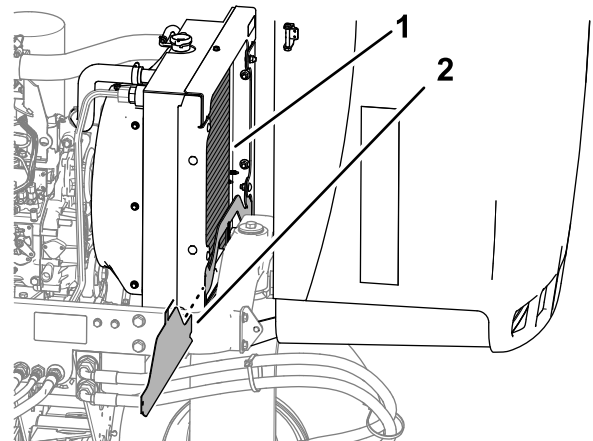

Figure 82
4. Remove the lower radiator shield (Figure 82).
5. Clean both sides of the radiator area thoroughly with water or compressed air (Figure 82).